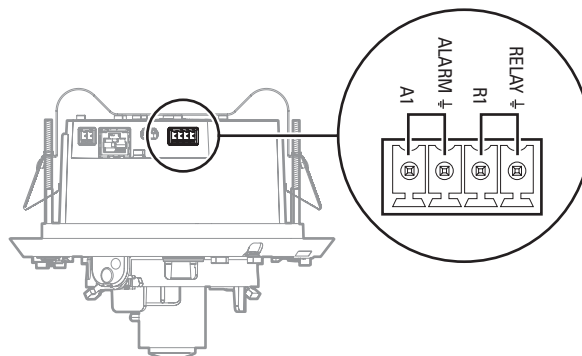

Figure 16. Alarm and Relay Connector
1. Connect the alarm and relay wires to the supplied 4-pin connector (refer to Figure 16).